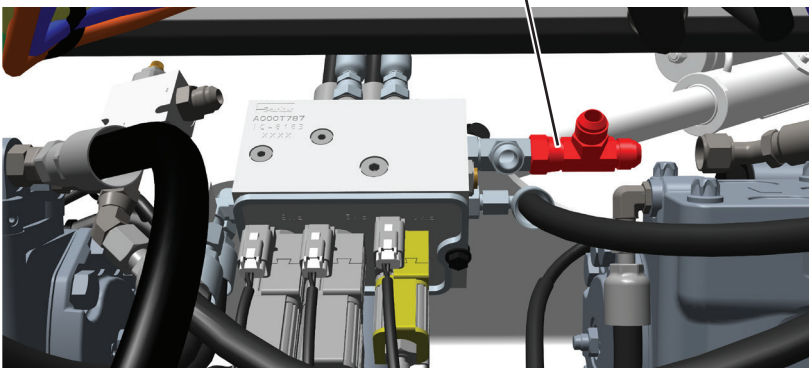

Figure 5. Chute Manifold T-Fitting Removal
7. Loosen and remove outer T-fitting from end of chute manifold. See Figure 5. Save T-fitting for reinstallation.